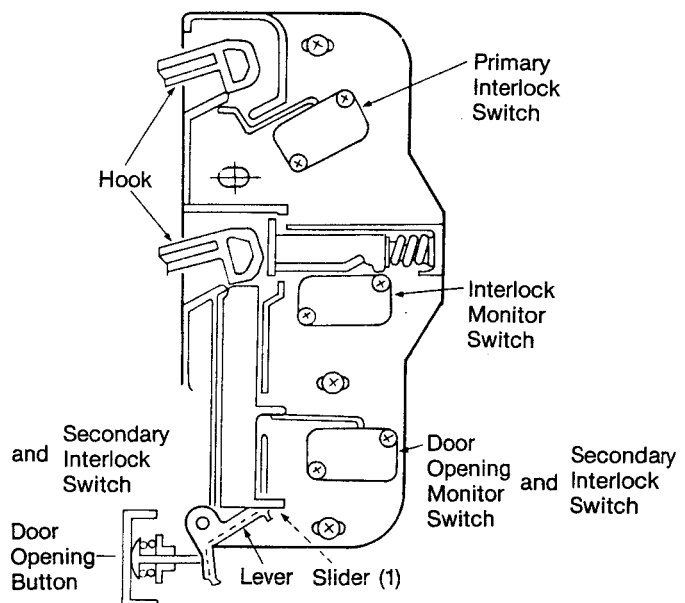

Fig. 10
Pushing the door-opening button to open the door mechanically moves the slider (1) upward which in turn, raises the hook, then the switch button pushes the levers upward, and turns off the interlock switches (primary and secondary interlock switches), and then the interlock monitor switch is closed. (Refer to Fig. 10)